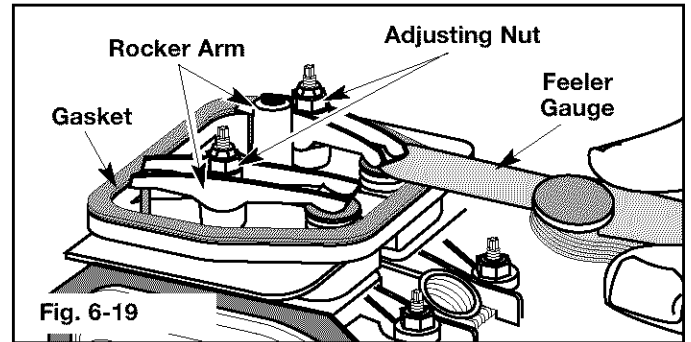

Fig. 6-19
8. Slide the feeler gauge between the rocker arm and the valve return spring. Measure the clearance between the valve stem and rocker arm (Fig 6-19). Do both intake and exhaust valves.
- a. Turn the adjusting nut using a 5/16 inch (8 mm) wrench or nut driver (Fig. 6-19).